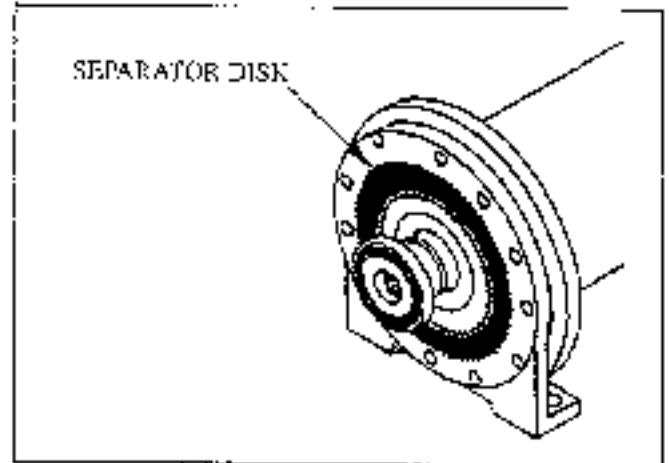

Figure 7
- (7) Remove the clutch and separator disc. A tool as shown below will facilitate removal. See Figure 7 and 8.